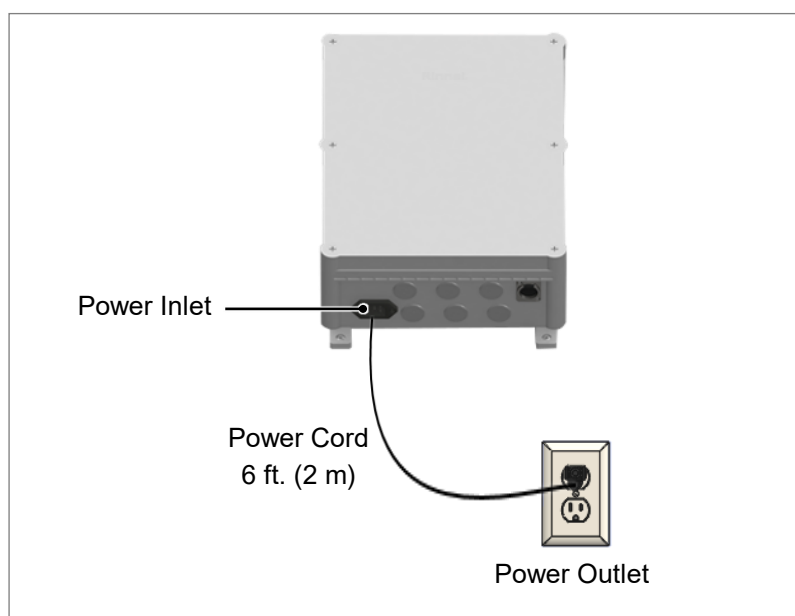

Fig 32. Connecting Power Cord from Indoor BMS Gateway to Power Outlet
1. Connect one end of the supplied 6 ft. (2 m) power cord to the power inlet of the BMS (Fig 32).
2. Connect the other end of the power cord to a standard three-prong 120V AC, 60 Hz properly grounded wall outlet (Fig 32).